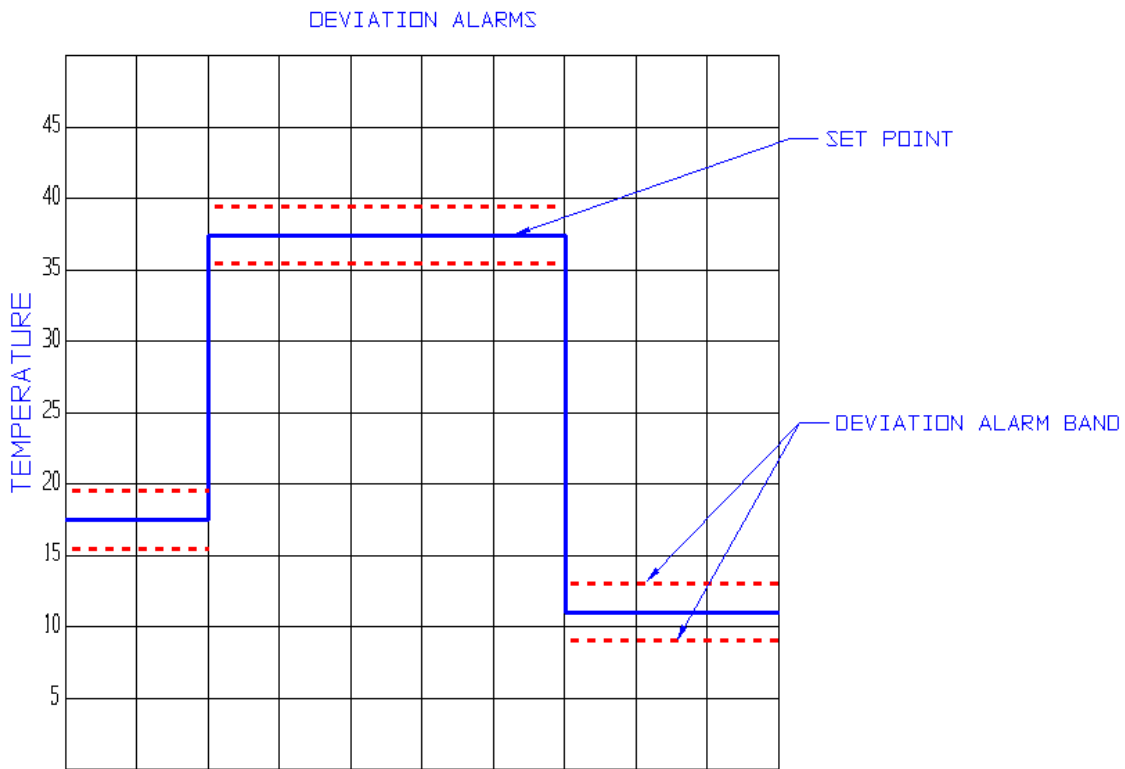

Figure 4 – Non-Ramping Deviation Alarms Example
- 1) The process value in the chamber enters the new deviation band (around 37.5°C in figure 4 above) and then falls out. This prevents unwanted deviation alarms between set point changes.